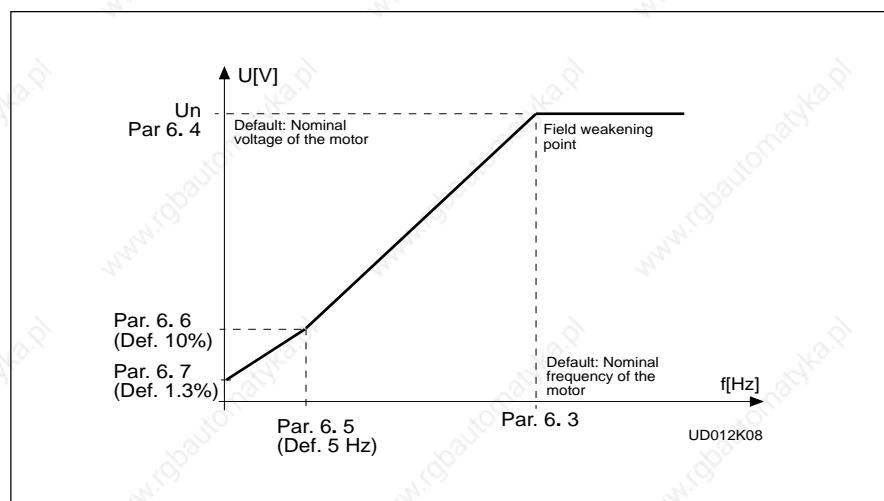

Figure 2.4-2 Programmable U/f curve.
**Programm.** The U/f curve can be programmed with three different points. **U/f curve** The parameters for programming are explained in the chapter 2.5.2 **2** Programmable U/f curve can be used if the other settings do not satisfy the needs of the application. See figure 2.4-2.